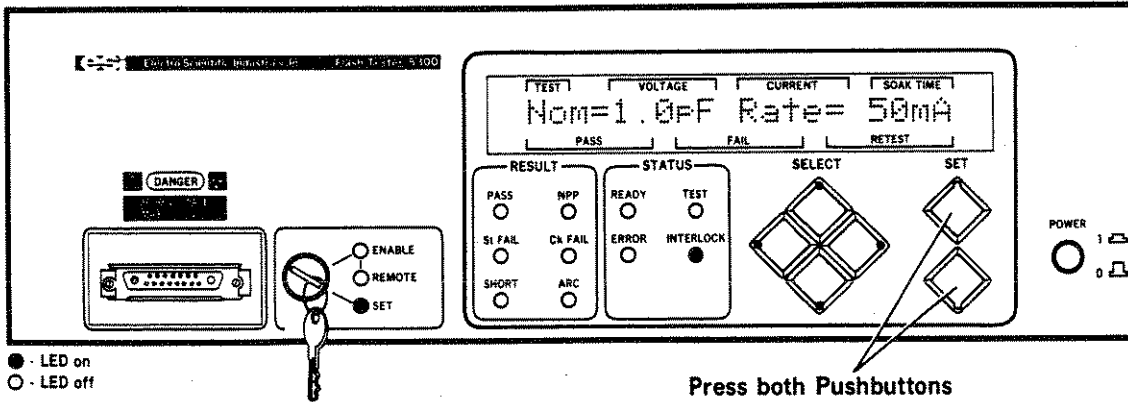

Figure 3-74. Entering the Configure Mode
STEP 3. Enter the Configure Mode by pressing the INC and DEC pushbuttons at the same time, then releasing them. If this is the first time this mode has been entered since power up, the display should change to the Instrument Identification screen (when the INC and DEC pushbuttons are released), as shown in Figure 3-74. Press the UP or DOWN pushbutton several times to scroll through the Configure mode screens.